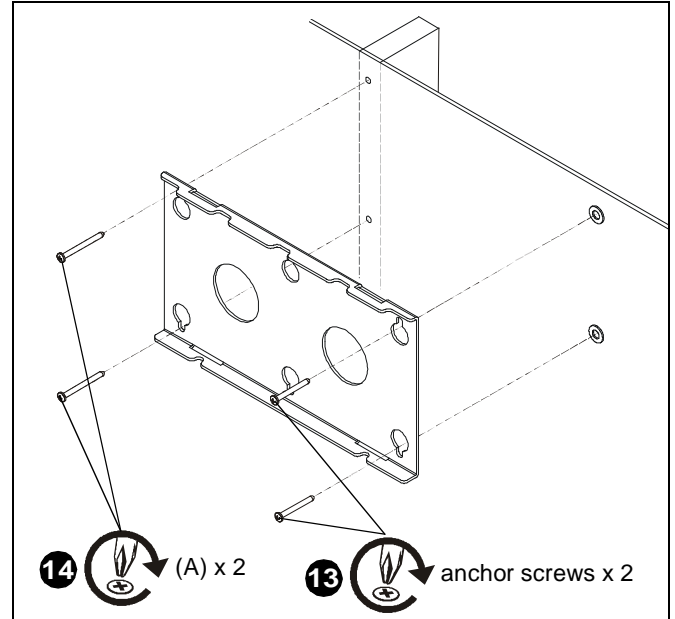

Figure 6
12. Remove and retain anchor screws from anchors (P).
13. Insert anchor screws through wall bracket (R) and install into collapsed anchors (P). (See Figure 6)
14. Install two #10 x 2 1/2" Phillips tapping screws (A) through wall bracket (R) and into wood stud. (See Figure 6)